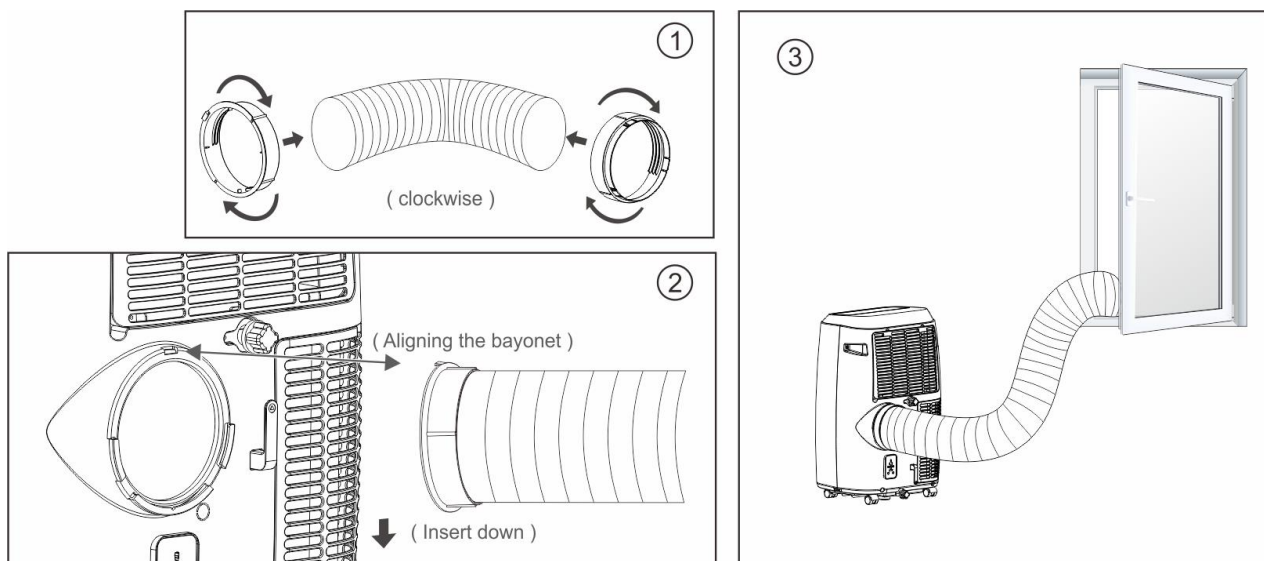

Fig.9
3. Put the other end of the exhaust hose to the near windowsill (see Fig.9).